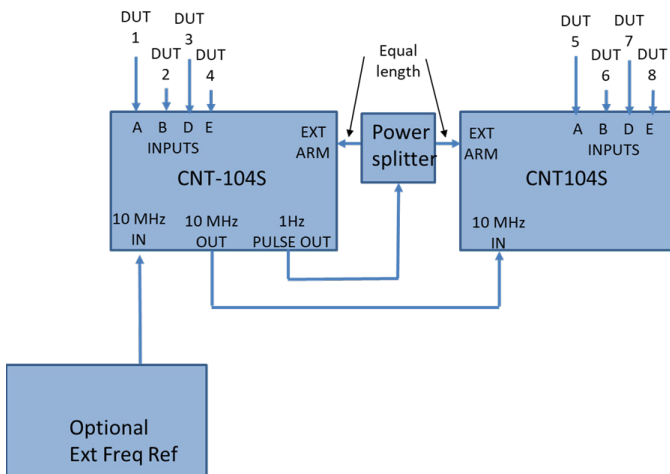

Figure 2. Set up for 8-channel phase comparison
- Connect as shown in figure 2.